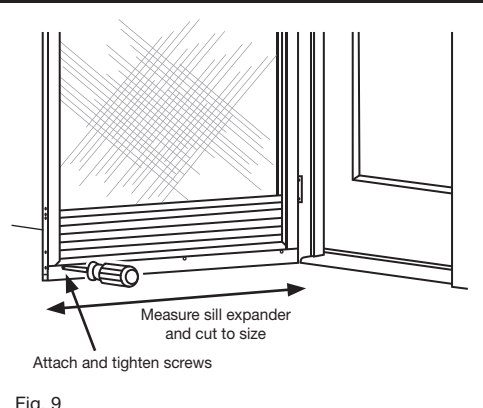

Fig. 9
Temporarily tape sill channel expander in place with masking tape. Mark and pre-drill (3) sill channel expander attachment holes as indicated on interior side using 1/8" drill bit. Secure with #8 x 3/8" screws provided (Fig. 9).
Con el expansor del canal del batiente ya instalado, debe haber un espacio de aproximadamente 64 mm desde la parte inferior de la puerta con pantalla al piso (Fig. 9).